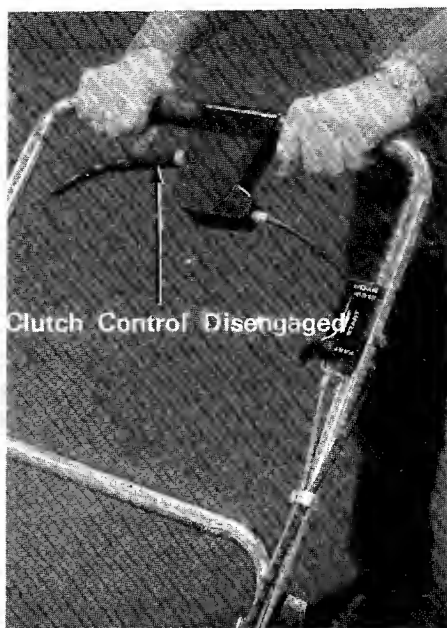

Figure 12
- 1 Make sure the clutch control is completely disengaged. (See figure 12.)